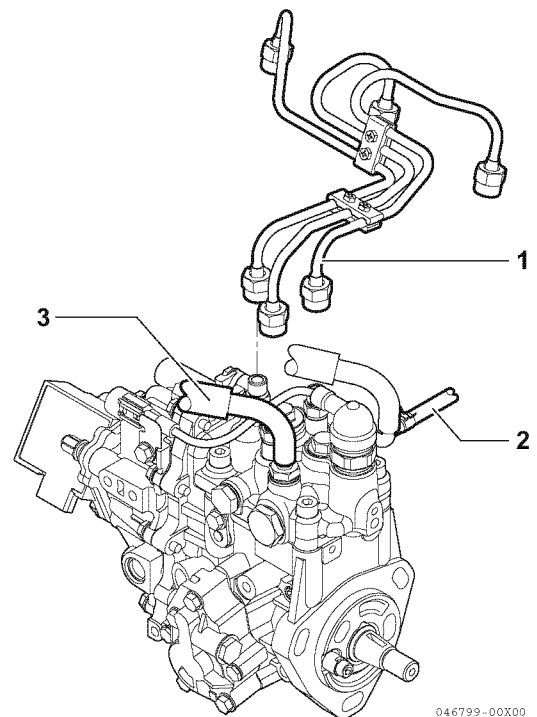

Figure 7-7
5. Remove the high-pressure fuel injection lines as an assembly (**Figure 7-7, (1)**).
8. Disconnect the fuel return lines from the fuel return fitting (**Figure 7-7, (2)**). Plug the open ends of the lines to minimize leakage and prevent contamination.
- Remove the fuel supply line (**Figure 7-7, (3)**). Plug the open end of the line to minimize leakage and prevent contamination.